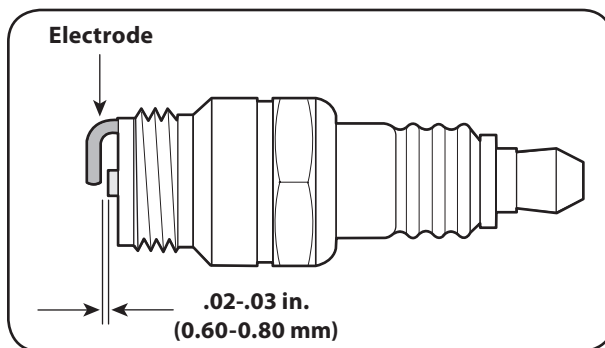

Figure 7-3
3. Measure the plug gap with a feeler gauge. Correct as necessary by bending side electrode, Figure 7-3. The gap should be set to .02-.03 inches (0.60-0.80 mm).